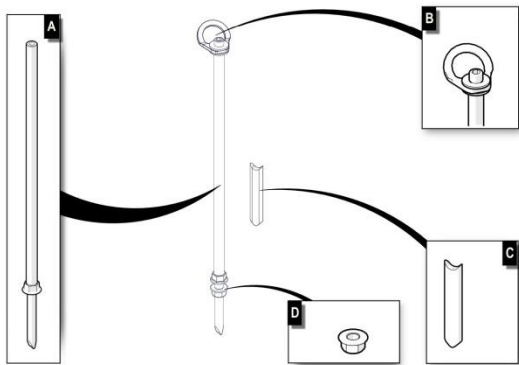

Figure 1. Elements of complete set
- Screw swivel plate [B] in post rod [A]. In case of installation in reinforced concrete with resin, nut [D] is unnecessary. Figure 1.